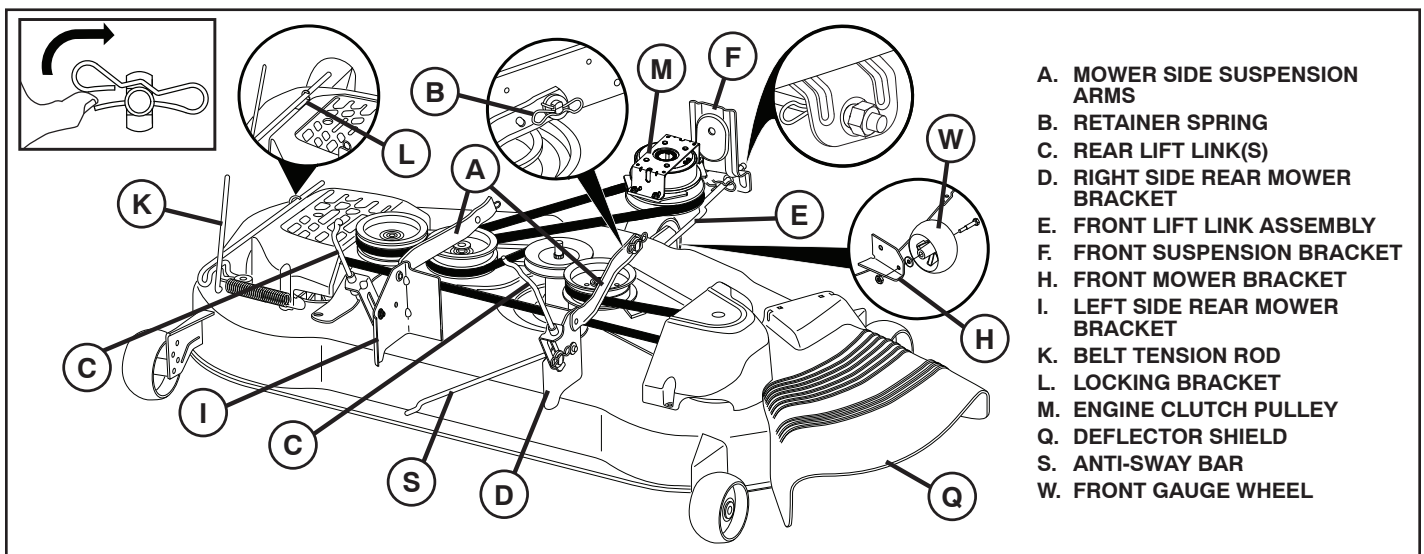

Fig. 8
## 9 INSTALL BELT ON ENGINE CLUTCH PULLEY (M) (See Fig. 8 & 15)
- Disengage belt tension rod (K) from locking bracket (L).
- Install belt onto engine clutch pulley (M).